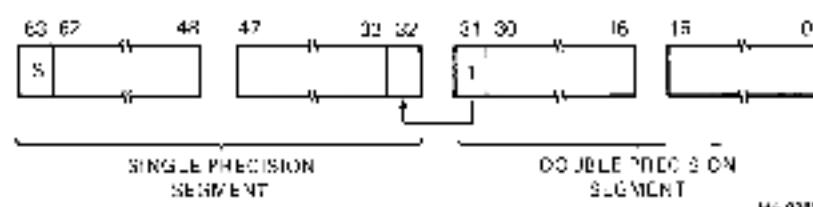

Figure 5-3 Double-to-Single Precision Rounding
The Load Convert Double-to-Floating (LDCDF) instruction causes the FP11-A to assume that the source specifies a double-precision floating-point number. The FP11-A then converts that number to single-precision, and places this result in the destination accumulator. If the floating-truncate (FT) status bit is set, the number is truncated. If the FT bit is not set, the number is rounded by adding a 1 to the single-precision segment if the MSB of the double-precision segment is a 1 depending on the prior conditions set up by the FD bit (Figure 5-3). If the MSB of the double-precision segment is 0, the single-precision word remains unchanged after rounding.
The Store Convert Double-to-Floating (STCDF) instruction causes the FP11-A to convert a double-precision number located in the source accumulator to a single-precision number. The FP11-A then transfers this result to the specified destination. If the floating-truncate (FT) bit is set, the floating-point number is truncated. If the FT bit is not set, the number is rounded. If the MSB (bit 31) of the double-precision segment of the word is a 1, it is added to the single-precision segment of the word, depending on the prior conditions set up by the FD bit (Figure 5-3); otherwise, the single-precision segment remains unchanged.